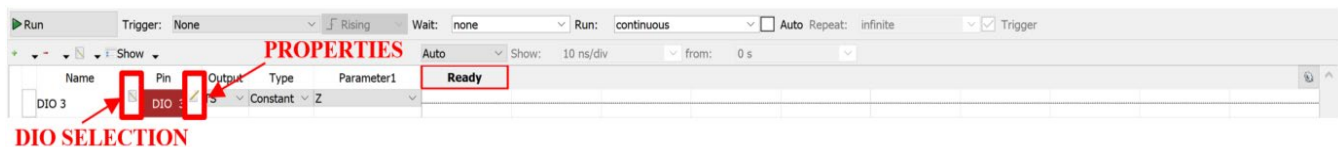

Figure 8: Pattern Generator
**Setting up a Signal:** Configure Digital I/O signal 3 into an output signal by selecting the green +, signal, DIO3, and Add. You should now see something similar to Figure 8. Now select "DIO Selection" (see Figure 8), type a name into the text box such as "My Signal", and press ok. It is a good habit to always name your signals. To add additional "Parameters" click "Show" (looked right above "DIO Selection") and select the one you want to see. Use this to verify you have connected the wires as you intended. To remove a signal, select the signal and press the red -
**Signal Types (Constant and Clock):** Use PP (push/pull) as the output setting. This setting will assure that the signal will only output 0V or 3.3V. You can configure the signal by changing the type and changing parameter1. Constant and Clock will be used most often used signal types in 3701. You can click on properties button to see more ways to configure each type. Notice that the line in the middle of Figures 8 and 9 are thicker than what you might see on your screen. To change the thickness of the line for easier viewing, right click on the signal line and change the plot width (plot width in Figures 8 and 9 are set at 2).